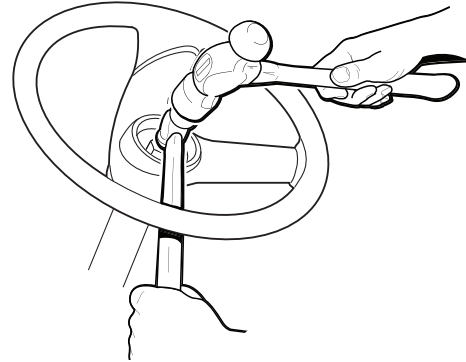

**Fig. 9 Steering Wheel Cover Removal**
1. Insert a flat screwdriver under the edge of the steering wheel cover (37) and pry it from the steering wheel (39) (Ref. Fig. 9).
2. Loosen the lock nut (38) two to three turns (Ref. Fig. 9) until it is slightly above the end of the steering shaft. DO NOT completely remove the nut at this time.
9. Align the pins on the steering wheel cover (37) with the holes in the steering wheel (Ref. Fig. 9).